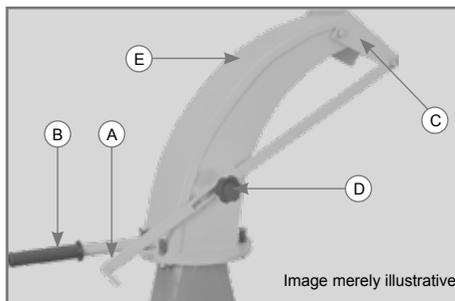

Figure 9
The outlet spout can adjust the direction of the outlet device (C) and the rotation of 360°, in order to make the adjustment, follow these directions according to Figure 9: